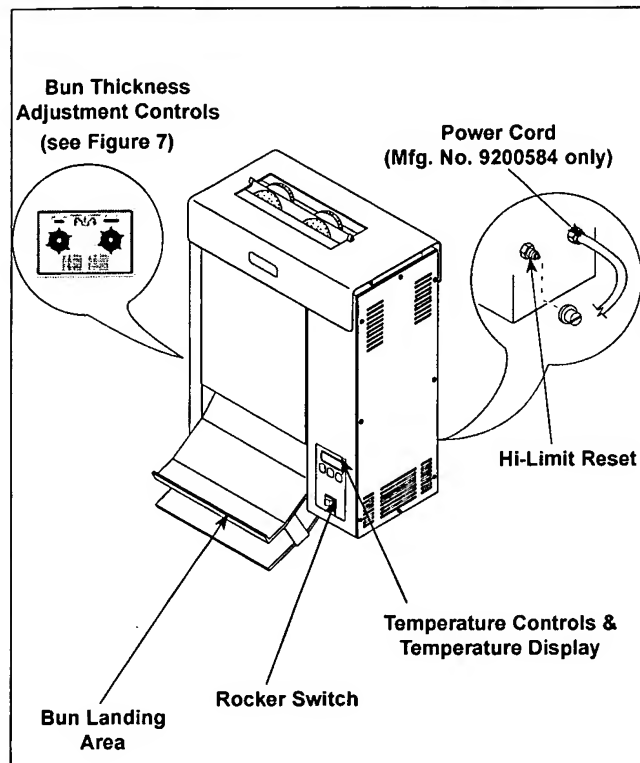

Figure 4. VCT-20 Toaster
2. Turn the rocker switch (power on/off) to ON. (Figure 4). Allow 30 minutes warm-up time before proceeding.
NOTE: The temperature display (Figure 4) will flash "LO" until preset operating temperature is reached. When the toaster approaches the preset temperature of 600°F (315°C), "USE" will appear in the temperature display and the unit is ready to toast buns. If "USE" does not appear in the window after warm-up period of approximately 30 minutes, contact your Roundup authorized service agency.
3. Drop buns into toaster (Figure 4). Cut sides of heel and crown must face each other (crown in front, heel in back).
4. Toasted product will drop into the bun landing area (Figure 4).
A hi-limit thermostat will turn off electrical power to the heater and control circuits if the unit overheats. To reset this thermostat, allow sufficient time (10-15 minutes) for the unit to cool down, then locate the reset button at the rear of the unit. Remove protective cap, depress the reset button, and reinstall protective cap (Figure 4).